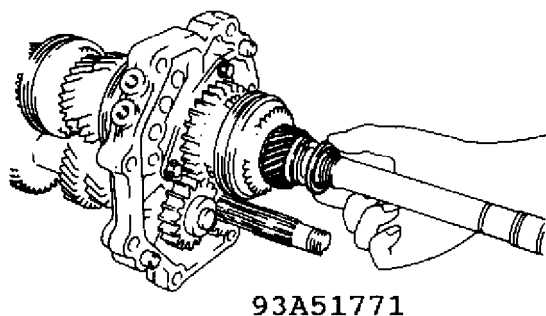

Fig. 2: Retaining Ring Installation (M-Type)
3. Install only the two 3.0mm (0.118 in) thick "C", washers in the front mainshaft groove and hold them with the retaining ring. See Figure 2.